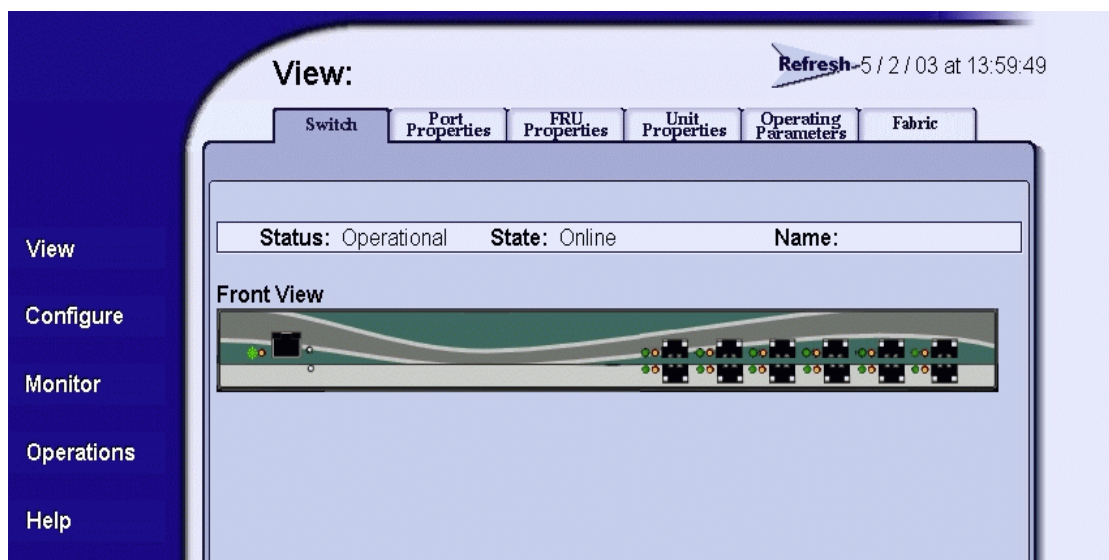

Figure 2-3 View Panel (Switch Page)
- d. Click OK. The SANpilot interface opens with the *View* panel open and the *Switch* page displayed (Figure 2-3).